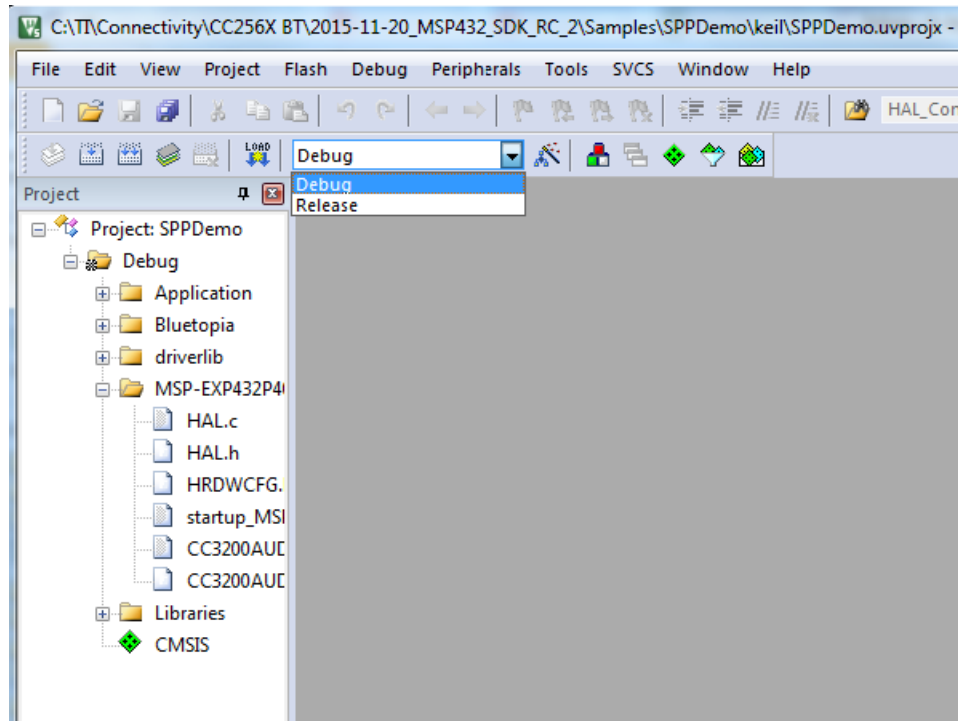

Figure 14. Configurations
5. Select either the *Debug* or *Release* configuration from the drop-down menu (in this example, select *Debug*, see Figure 14).